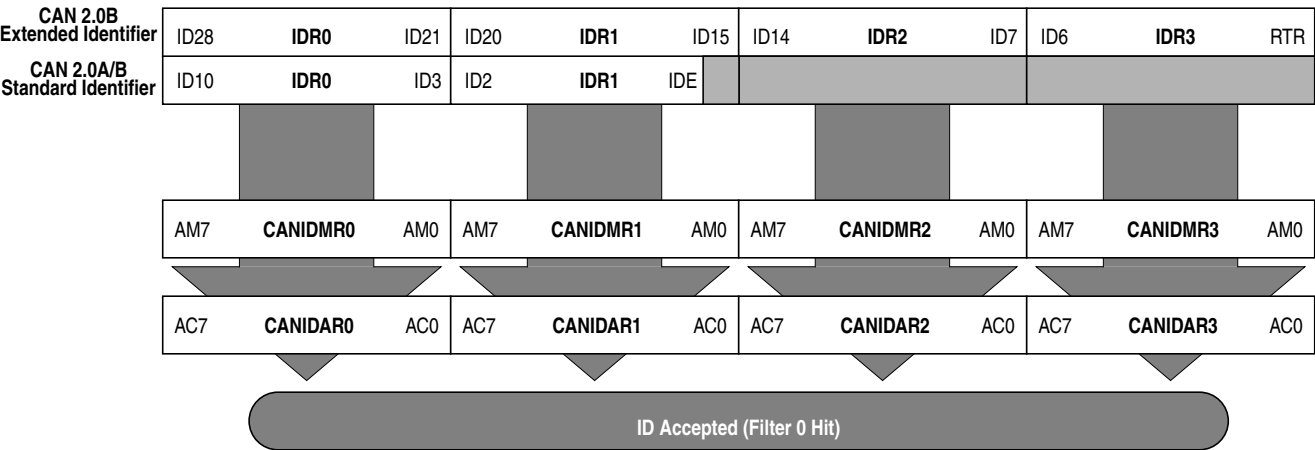

Figure 10-39. 32-bit Maskable Identifier Acceptance Filter
- The 11 bits of the standard identifier plus the RTR and IDE bits of the CAN 2.0A/B messages¹. This mode implements two filters for a full length CAN 2.0B compliant extended identifier. Figure 10-39 shows how the first 32-bit filter bank (CANIDAR0–CANIDAR3, CANIDMR0–CANIDMR3) produces a filter 0 hit. Similarly, the second filter bank (CANIDAR4–CANIDAR7, CANIDMR4–CANIDMR7) produces a filter 1 hit.